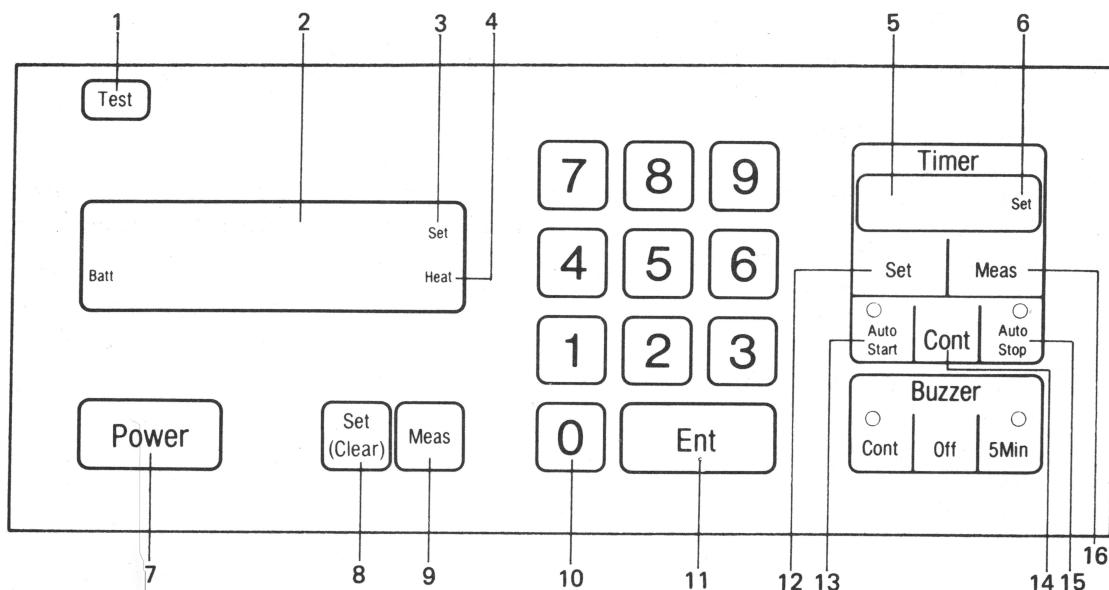

Figure 2. Control Panel And Keyboard, Models DS-44 And DS-64.
1.3 Control Panel And Keyboard Functions (Figure 2)